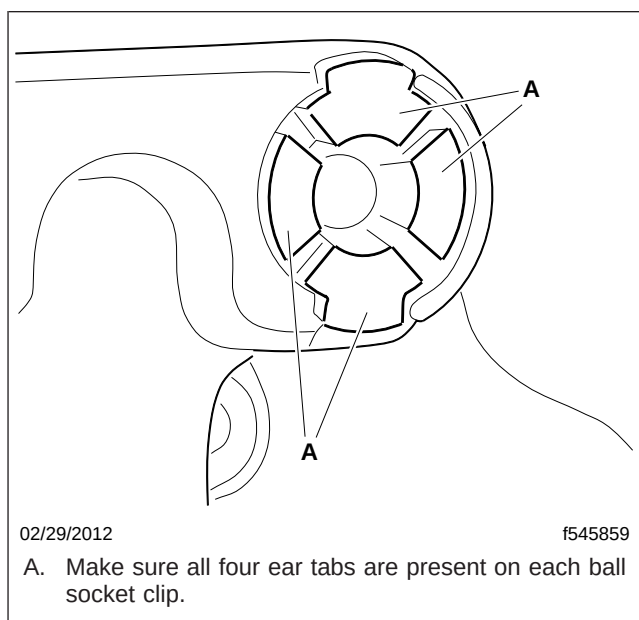

Fig. 6, Antenna Mounting Socket Tabs
6. Make sure the ball socket clips are not broken and that all four "ear" tabs are present. See Fig. 6. Grab the antenna and push, then pull gently. If the joint is loose, the ball socket clip may be broken.